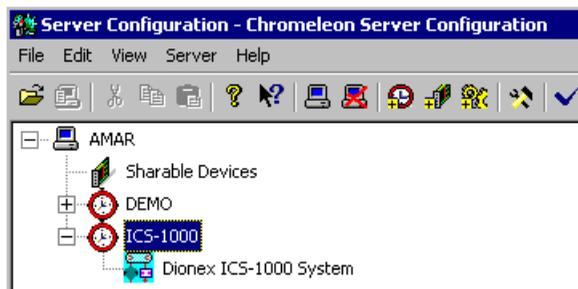

Figure 15. Example: ICS-1000 Timebase
1. Follow the instructions in *Installing the Chromeleon Chromatography Management System with a Dionex Ion Chromatography (IC)* (Document No. 031883) to add the DX-LAN card to the server configuration as a sharable device.
2. Select the timebase that was created for the ICS-1000 (see Figure 15); then, click the **Add device** icon  on the toolbar (or select **Edit>Add Device**).